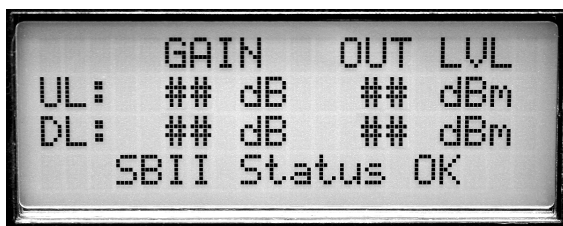

Figure 6: Normal Operational LCD Display.
- 5) The LCD display should appear similar to **Figure 6** after the self check is complete.
Once the boot-up sequence is completed (after several seconds) the LCD screen will switch to the main status display as shown in figure 6. This is the normal display for the signal booster. The system